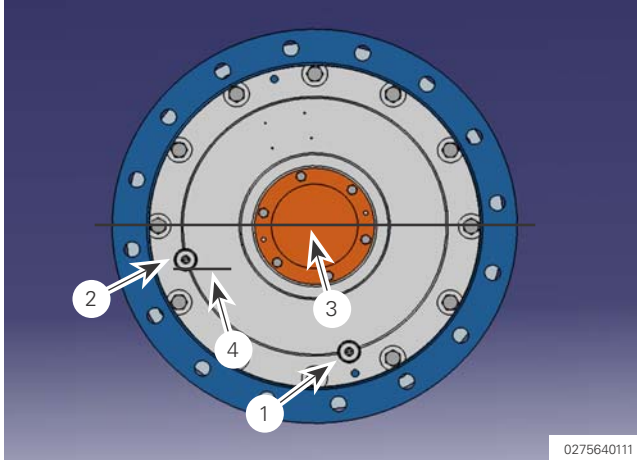

Figure 213
- » Refill with the recommended oil until the level reaches the level plug. See Figure 213. Refer to "TECHNICAL DATA" on page 114 for information on the recommended oil. Do not overfill as this could lead to overheating and cause permanent damage. Ensure no foreign matter enters the housing as contamination could cause irreversible damage.